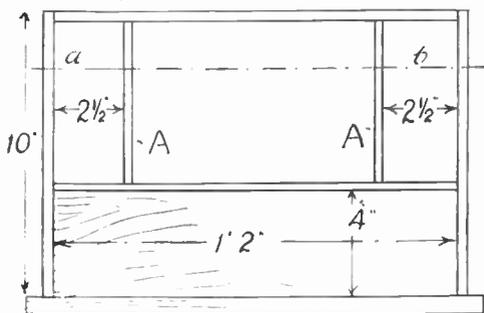
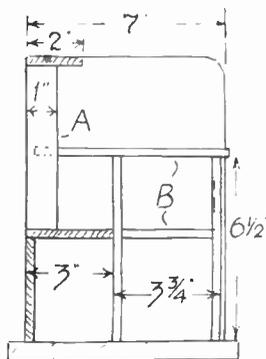

Fig. 1—Plan of the front
Fig. 2—End section
Fig. 1 is a front elevation, Fig. 2 a side section, with dimensions. For economy's sake it is, perhaps, better to use the $\frac{3}{4}$ in. deal mentioned for the shop sides and top cross piece. Cut these to dimensions given, and round off the rear top corners. At the spots where the counter will be nailed later, square lines across as a guide, to get the counter level, and not on the skew.
Inside the shop a set of shelves should be made and set up each side. These are seen in Fig. 2, and consist of two pieces (B) fixed to a pair of vertical uprights. The width of top shelf (B) is just $2\frac{1}{2}$ ins., so that its further end can fit between the vertical front strips. (A).
Cut the side parts, then the middle shelf to height and width in Fig. 2, and glue each side to butt up against the counter. The top shelf (B) is cut 7 ins. long, but is to be nailed on top later.